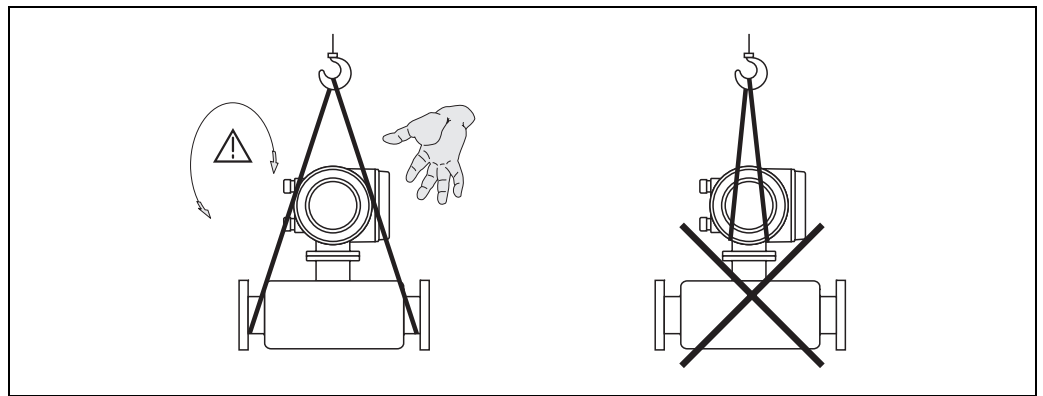

Fig. 4: Instructions for transporting sensors with DN 40 to 100 (1½" to 4")
- Do not lift measuring devices of nominal diameters DN 40 to 100 (1½" to 4") by the transmitter housing or the connection housing in the case of the remote version (Fig. 4). Use webbing slings slung round the two process connections. Do not use chains, as they could damage the housing.